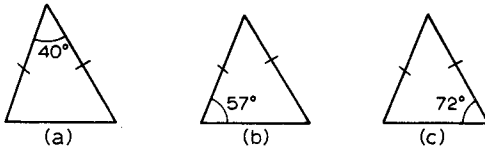

Fig. 1.80
2. Fig. 1.80 shows some isosceles triangles with one angle shown. What are the remaining angles?